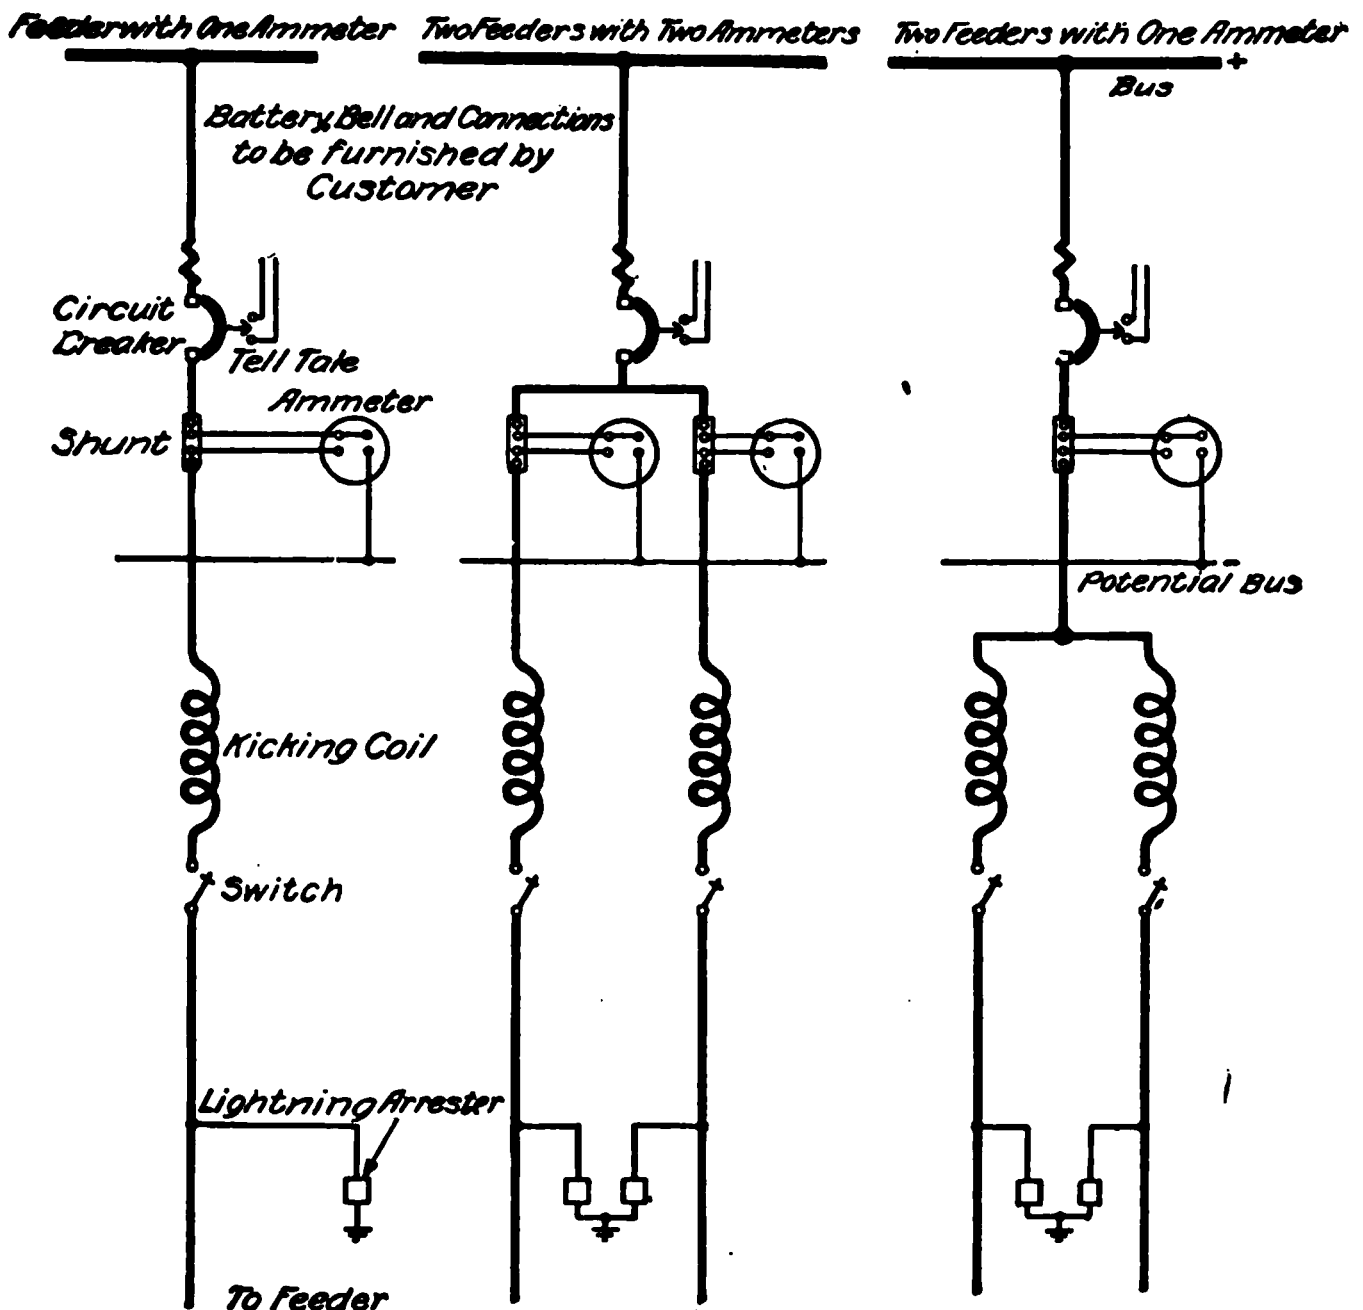

Fig. 312. D. C. Feeders.
D. C. feeder panels are connected as shown in Fig. 312